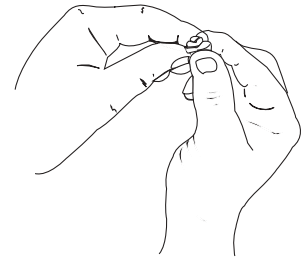

Figure 47
5. Squeeze the filter to spread and remove excess oil. See Figure 47.